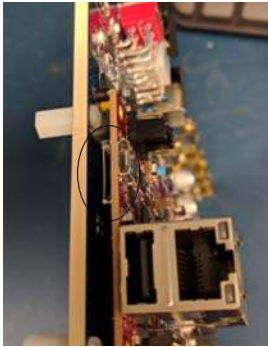

Figure 15. MicroSD Card Slot in MicroZed Board
2. Connect the microSD card to the MicroZed board (face the contacts of the microSD card up). See Figure 15 for additional details.